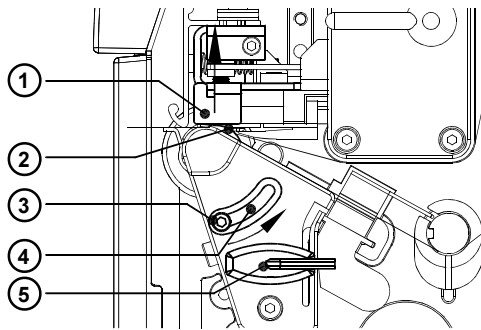

Fig. 7h Adjustment of the Printhead Support
1. The current position of the printhead support (2) is shown by the position of the screw (3) in the elongated hole (4).
2. For wide media the screw position shown in figure 7h is recommended. In this position the printhead support (2) is not used.
3. For narrow media, it is necessary to adjust the printhead support. In this case insert a second strip of a label at the outer side of the print roller and close the printhead. Loosen the screw (3) using the Allen key (5) and slide it slowly in the arrow direction until the printhead support (2) touches the printhead mounting (1).
4. Tighten the screw (3).